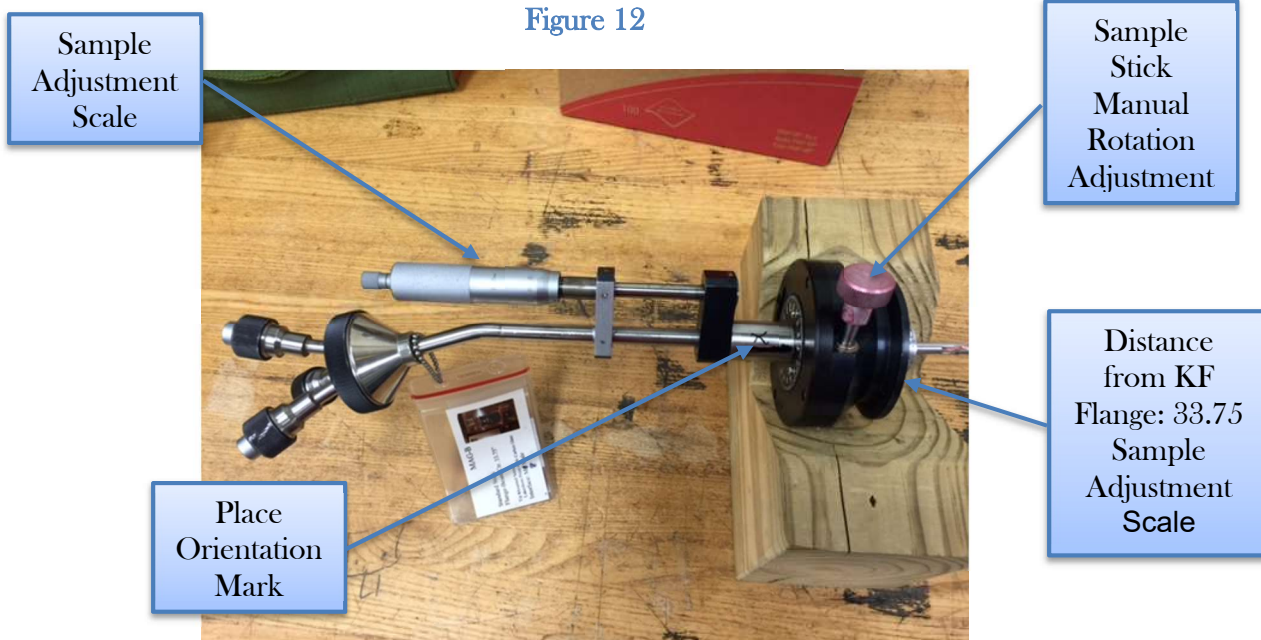

Figure 13
- 1.18 Ensure that sample is oriented in beam center position by measuring 33.75in from KF flange (Figure 13).
- 1.20 If necessary, use the sample stick adjustment scale to make any small adjustments to place sample in desired position (Figure 13).
- 1.21 If the sample has a unique orientation requirement, place a mark indicating desired orientation on the upper region, above the KF flange, of the sample stick (Figure 13).